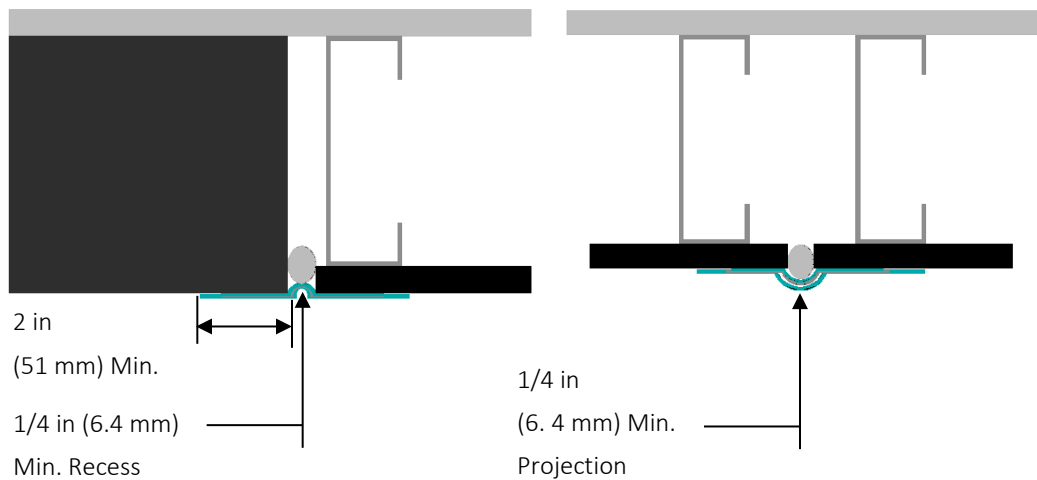

Fig. 13
- The width of the AquaFlash Mesh must overlap each side of the joint a minimum of 2 in (51 mm) - Figure 13.